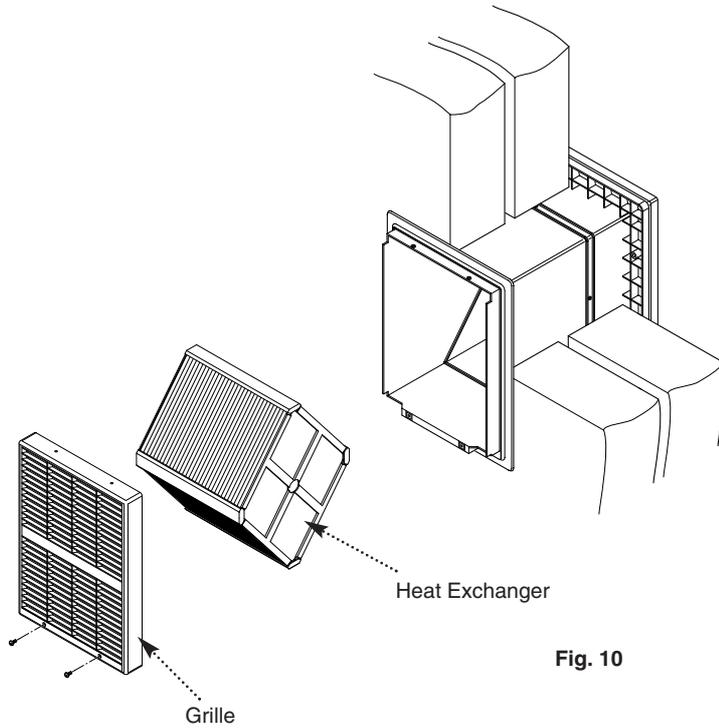

Fig. 10
4. Undo the two grille securing screws and remove the grille (Fig. 10).
6. Slide out the heat exchanger (Fig 10).